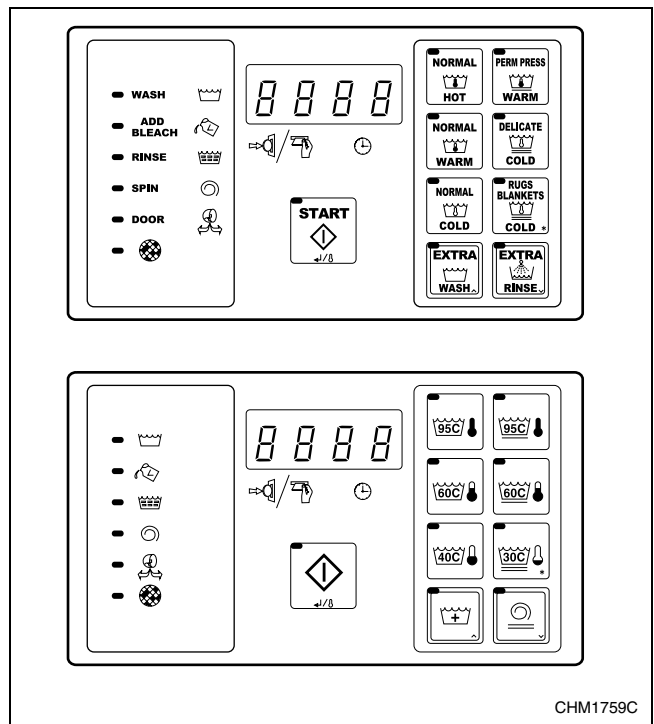

Figure 39
5. The default wash cycle will display. Refer to *Figure 39*.